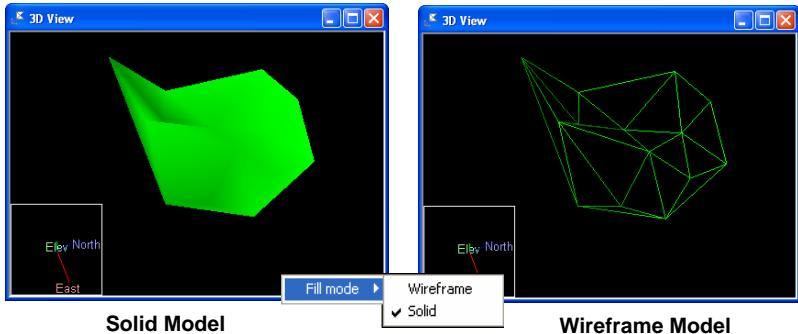

Figure 4-29. 3D Image Model Types
The 3D image can be viewed as a solid model or a wireframe model. To select the desired model, right-click outside the image and click the model type on the pop-up menu (Figure 4-29).
- Click the *Image* tab. Right click on the corresponding image in the left panel and select “Set as Surface Texture” from pop-up menu (Figure 4-29 on page 4-33).